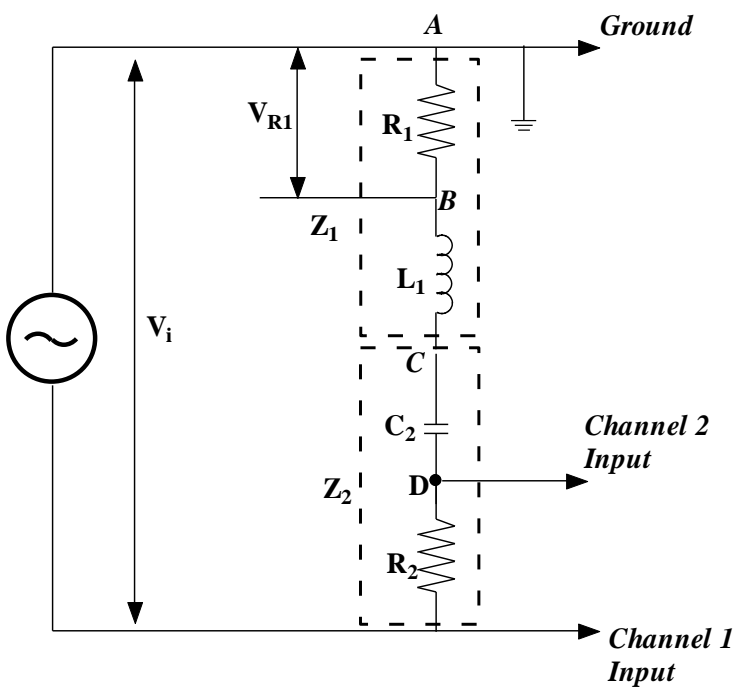

Figure 4
- 1.7 Reconnect the CHANNEL 1, CHANNEL 2, and the ground connections of the oscilloscope to terminals A, C, and E as illustrated in Fig 4. Measure and record the peak-to-peak value of V_3 and its angle (ϕ_3) with respect to V_i .
2.1 Reconnect R_1 , L_1 , R_2 , C_2 and the signal generator as in Fig. 4